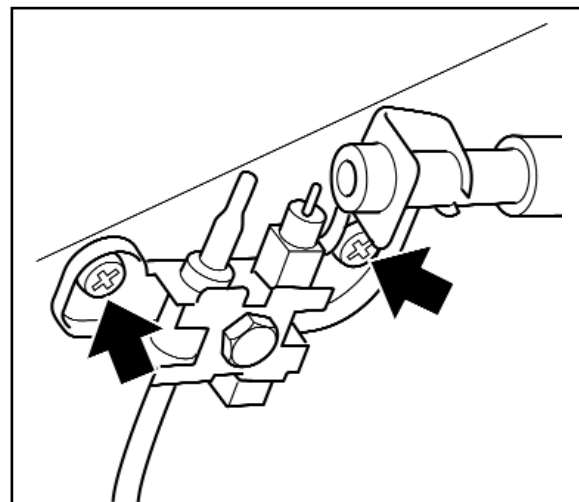

Figure 47. Pilot unit removal
6. Remove the two screws securing the pilot unit (See figure 47).